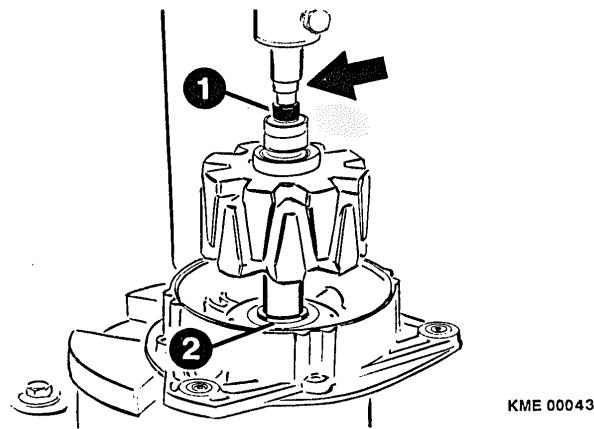

Figure 28 Installing Rotor into Drive End Shield
5. Place drive end shield on to an arbor press with the bearing/fan spacer ring pointed down. (Figure 28)